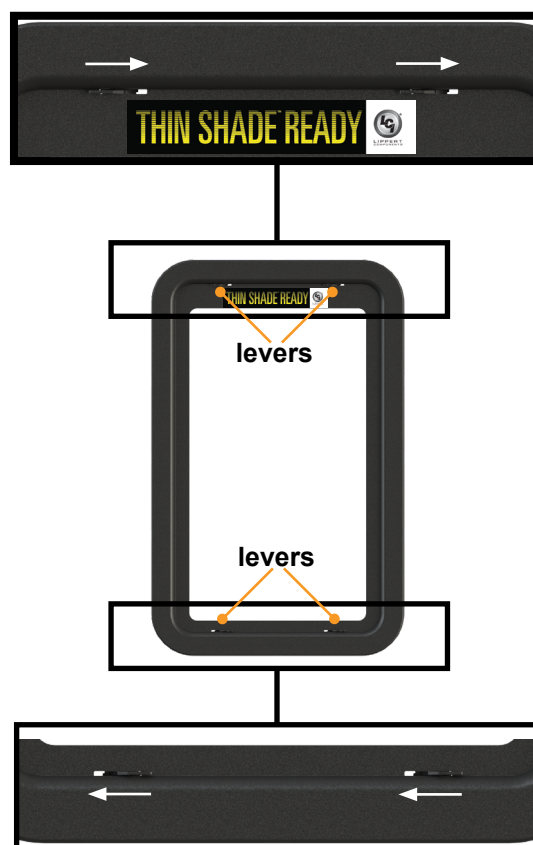

Fig.1
**NOTE:** The Thin Shade can be installed as shown in Fig. 1 to close from top to bottom of the window or flipped vertically to close from bottom to top. Installation is the same in either orientation.
1. Unlatch the small levers at the top of the window frame in a left-to-right direction (Fig.1).
2. Unlatch the levers at the bottom of the frame in a right-to left direction (Fig.1).